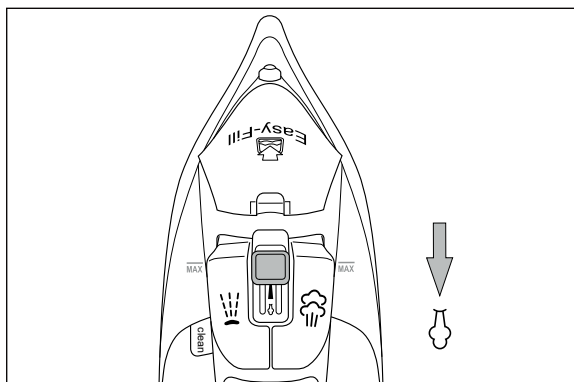

Fig. 1
- 3) Slide the steam control **3** all the way down to position  (more steam) (see Fig. 1).